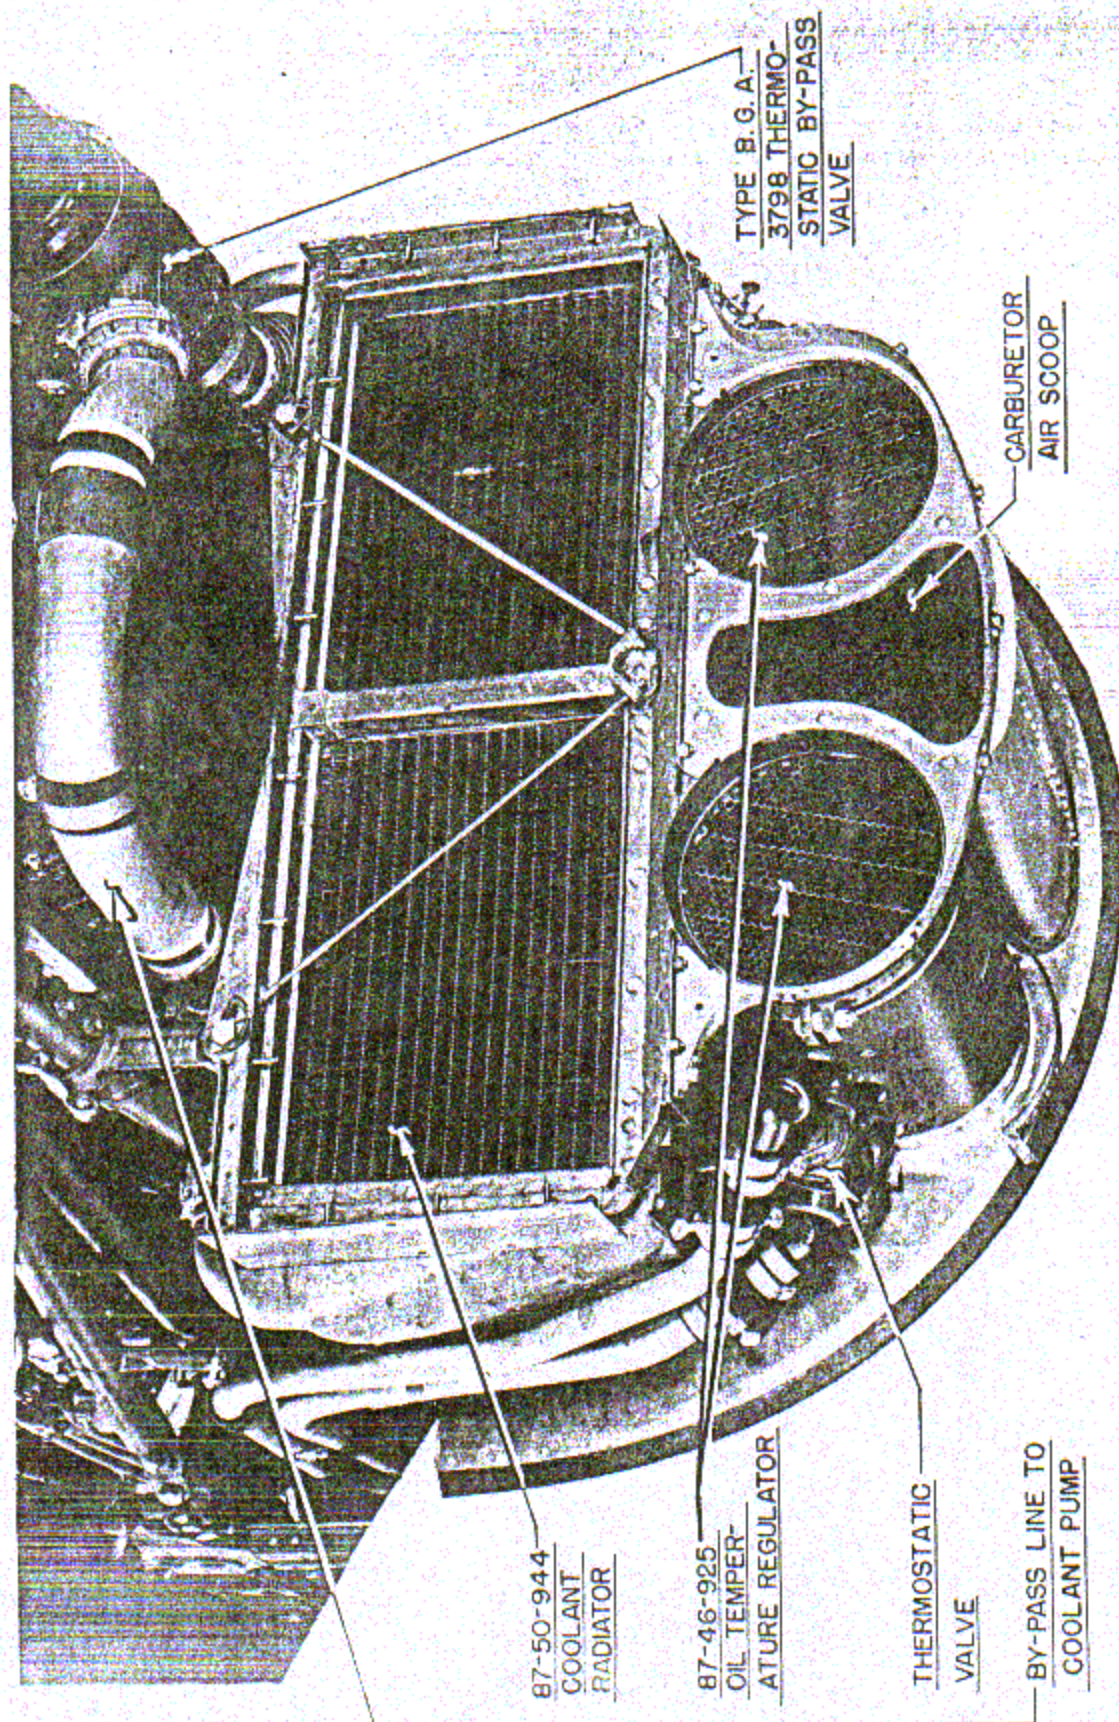
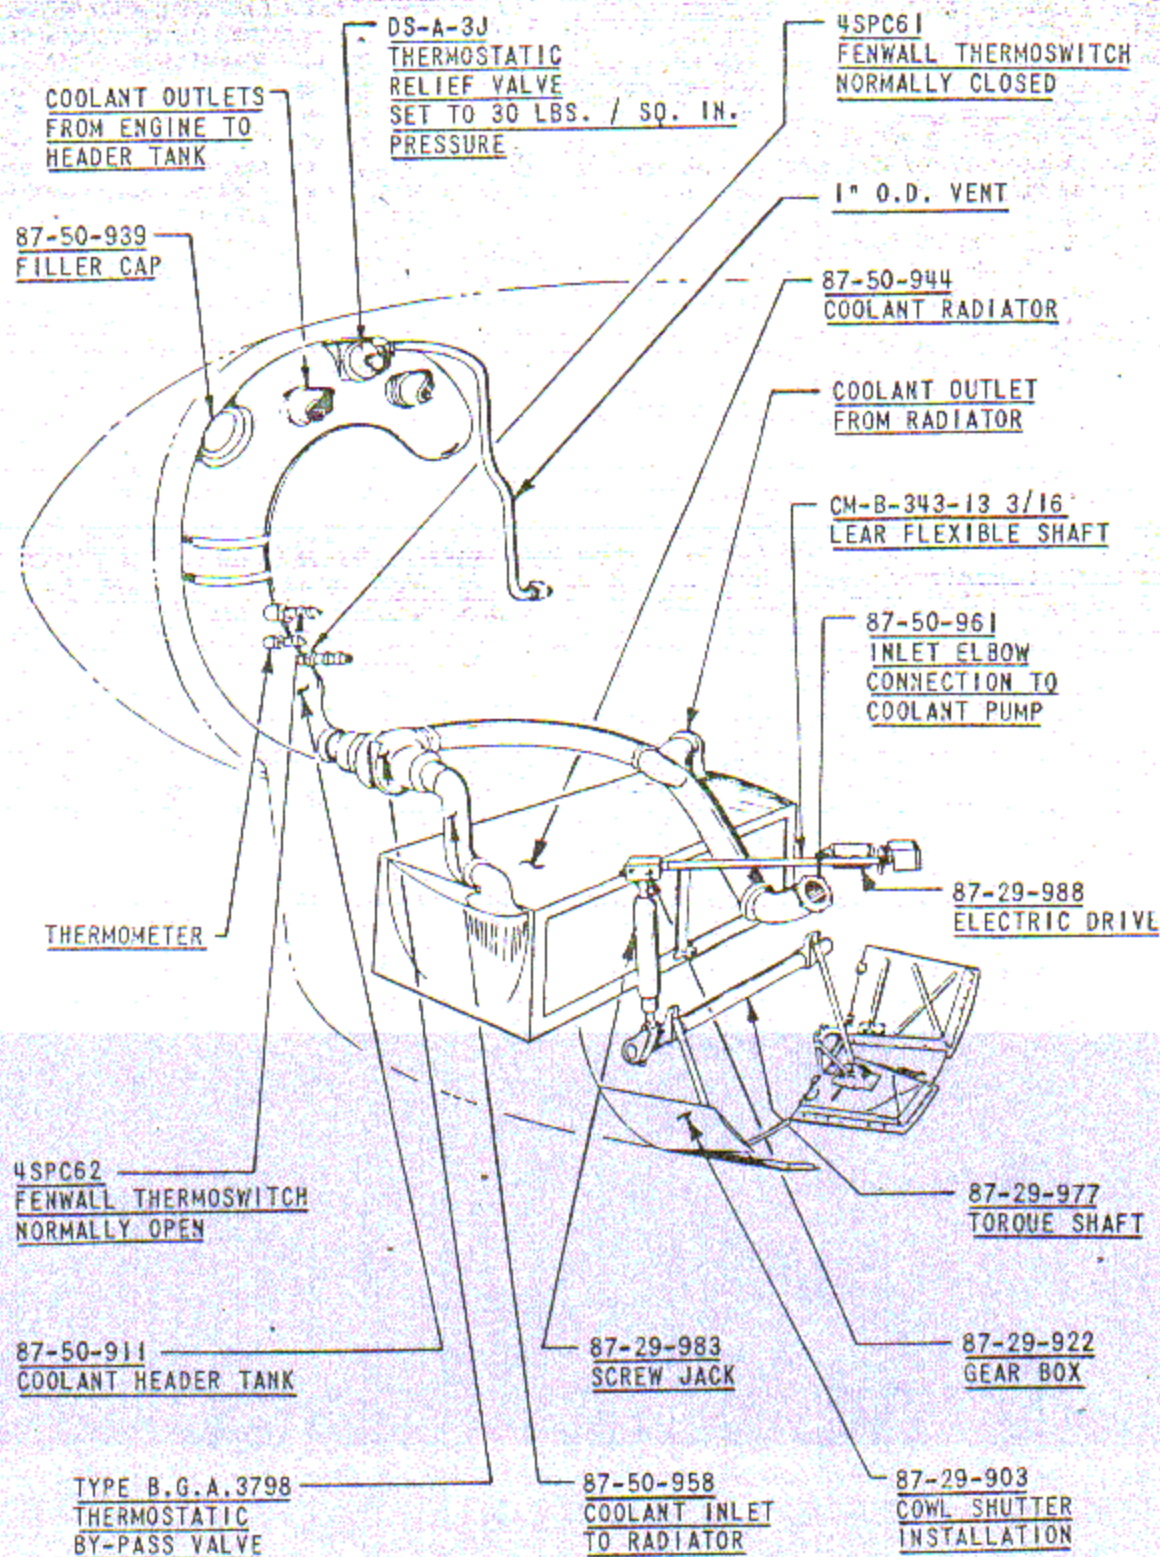

Fig. 54 - Coolant radiator - oil coolers - carburetor air scoop.
Fig. 60 - Coolant system diagram.
a. General. - The engine is liquid cooled. For a diagram of the coolant system see Figure 60. For radiator air ducts see Figure 54. The filler cap is in the top of the header tank at the front of the engine and is accessible through a door in the left section of the engine cowling. The system employs a closed circuit with continuous flow from the circulating pump through the engine coolant jackets to a header tank, (Drawing 87-50-911), and then back to the pump through a radiator. The pressure is controlled by the cooling characteristics of the radiator, with a limiting pressure set by a thermostatically controlled relief valve which is located at the highest point of the system at the top of the header tank. The coolant is pumped into the cylinder blocks through pipes bolted to the exhaust side of each block, feeding several points of the block to insure equal distribution